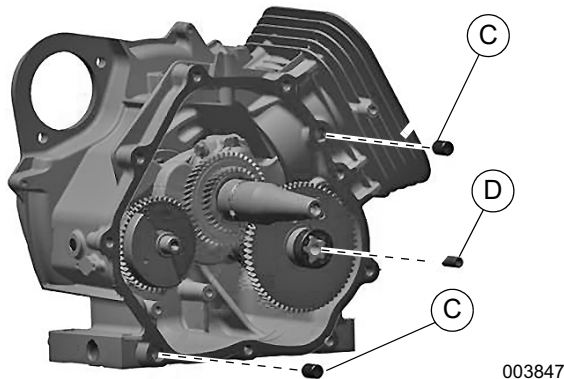

Figure 14-25. Install Dowels
2. See Figure 14-25. Install cover dowels (C) and oil pump inner oil pump gerotor dowel (D) in case and cam assemblies, respectively. Coat all surfaces of the oil pump inner oil pump gerotor dowel with a thin film of assembly lube.